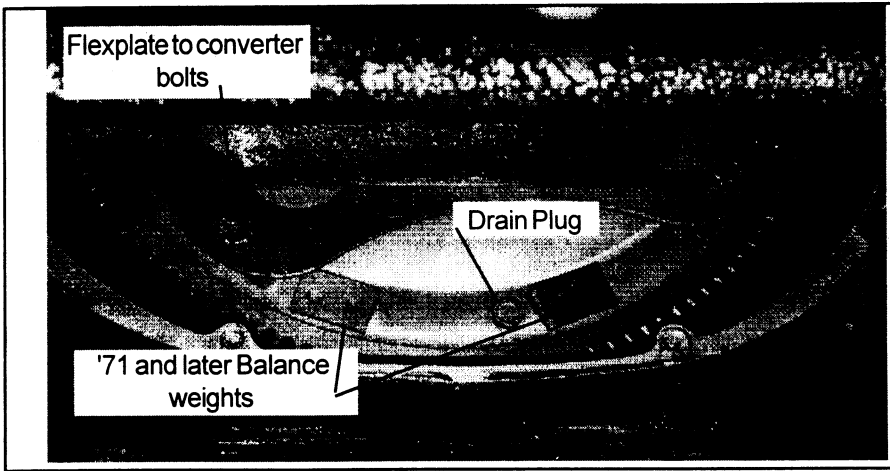

Figure 3
**STEP 6.** Remove dipstick and tube assembly. Remove torque converter access cover bolts and access cover (see fig. 3). Remove flexplate to converter bolts (see fig. 3). Use engine rotating tool or starter motor to "bump" each bolt into position.
**Important Note:** Chrysler began producing cast-iron crankshafts in 1971. These crankshafts require external balance weights (which are normally attached to the torque converter) to balance the engine. B&M Torque Converters are dynamically balanced without any crankshaft balancing weights and cannot be directly substituted for an externally balanced torque converter or severe vibration will occur. B&M manufactures counter balanced flexplates for these applications which allows the use of a B&M converter with a cast iron crankshaft equipped engine (see fig. 7). Inspect your stock torque converter. If there are one or more balance weights spot welded between two drive lugs on the front of the converter (see fig. 3), you must use one of the following flexplates for proper engine balance: